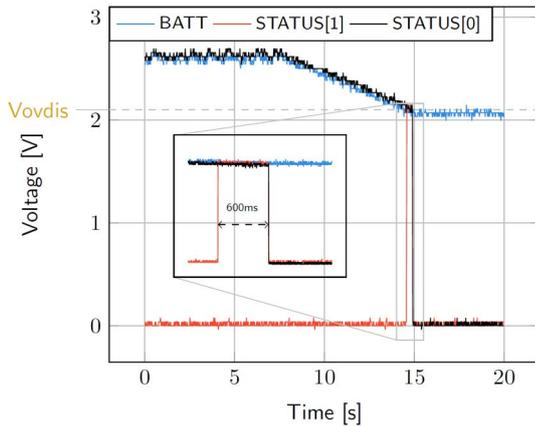

Figure 5: LDOs disabled around 600 ms after **BATT** reaches  $V_{OVDIS}$
- BATT: Voltage decreases as the system consumes the power accumulated in the storage element. The voltage remains stable after crossing  $V_{OVDIS}$  (see Figure 5).
- **STATUS[0]**: De-asserted when the LDOs are no longer available as the storage element is running out of energy. This happens 600 ms after **STATUS[1]** assertion (see Figure 5).
- **STATUS[1]**: Asserted for 600ms when the storage element voltage (**BATT**) falls below  $V_{OVDIS}$  (see Figure 5).